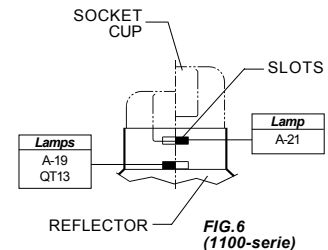

FIG. 6
. 1100 Serie: See Fig. 6
b) If using FLEXIBLE WIRE: Insert under the wire clamp. (Fig.6)
b) If using FLEXIBLE WIRE: Insert under the wire connector. (Fig.6)